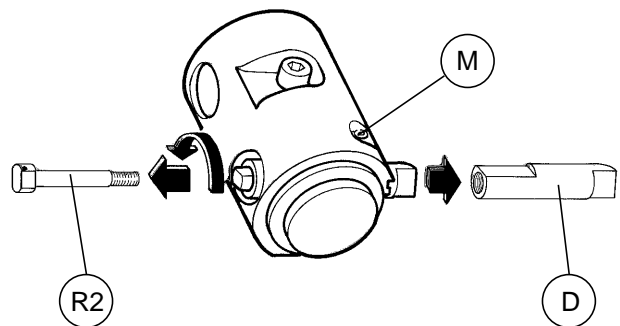

Fig. 13
- 2) Completely unscrew (R2), loosen the dowl (M) and remove the tracer point (D) as shown in fig. 13.
- 4) Replace the knob (R) and tighten. Re-set the machine following the instructions on page 3.